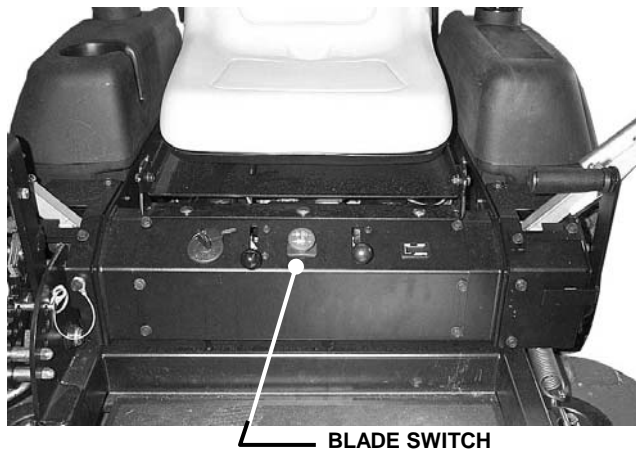

FIGURE 3.2
3. Push blade switch in to "OFF", blades disengaged position and engage parking brake. See Figure 3.2.
2. Pull the Blade Switch up to the "ON" position to engage or turn "ON" the mower blades. See Figure 3.2.